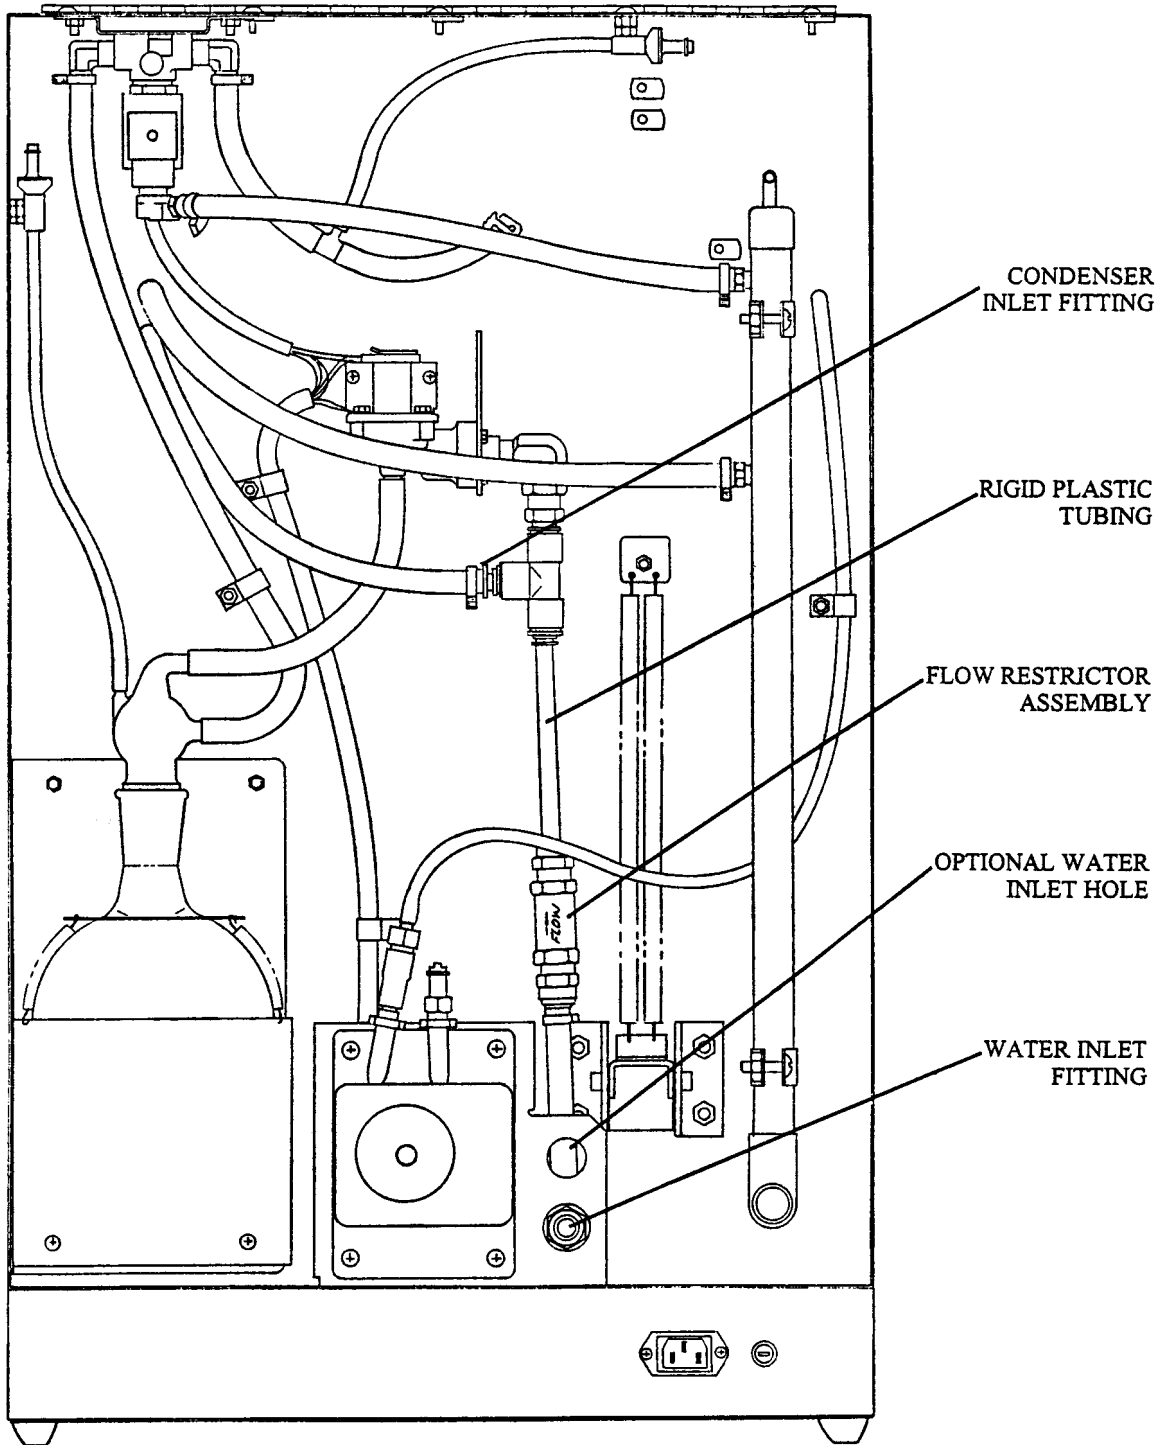

Figure 6
- (1) Unplug the RapidStill II and disconnect the feed water and drain lines, so the unit can be turned around.
- (2) Turn the unit around and locate the water inlet fitting as shown in Figure 6.
- (3) Locate the optional water inlet hole just above the water inlet fitting, as shown in Figure 6.
- (4) Install the supplied bulkhead union in a manner similar to the water inlet fitting below it. **DO NOT** overtighten the nut on the bulkhead union; it may damage the fitting.
- (5) Remove the flow restrictor assembly from the T-shaped fitting. Discard the short length of rigid plastic tubing that runs from the outlet of the flow restrictor to the T-shaped fitting.
- (6) Disconnect the condenser inlet fitting from the T-shaped fitting, as shown in Figure 6.